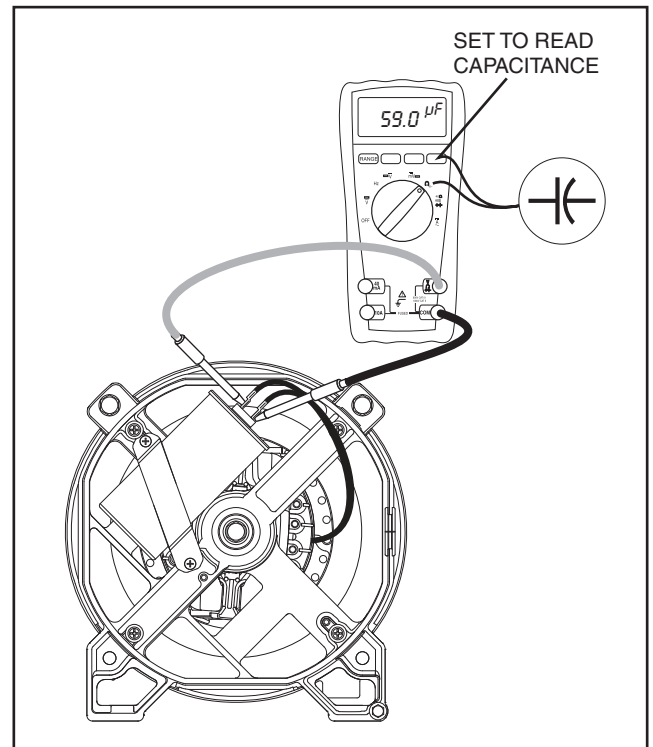

Figure 7. Capacitor Test Points
1. Consult the owner's manual of the meter being used for directions on measuring capacitance. Figures 7 and 8 show a typical meter and how to check capacitance.